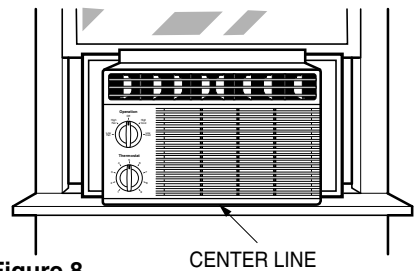

Figure 8
When the air conditioner drops into the L bracket, the air conditioner will be centered in window opening as shown in Figure. 8.
6. Remove 2 screws that secure the air guide upper to air guide lower. (See Figure 8)